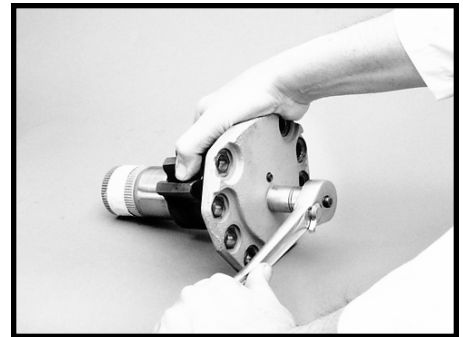

Figure 49
11. Remove the sector shaft adjusting screw jam nut (58). SEE FIGURE 49. 3/4 inch socket required.